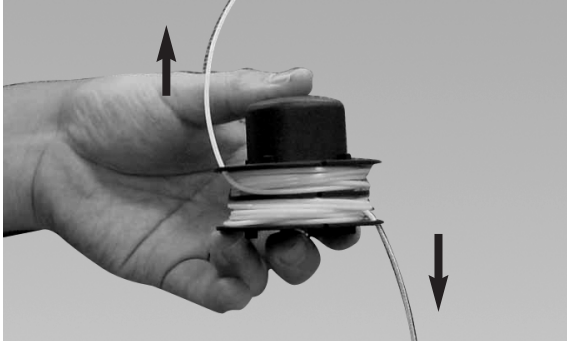
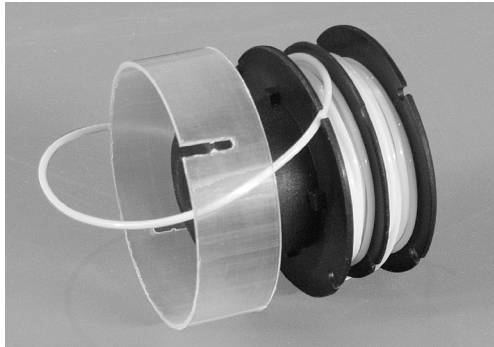
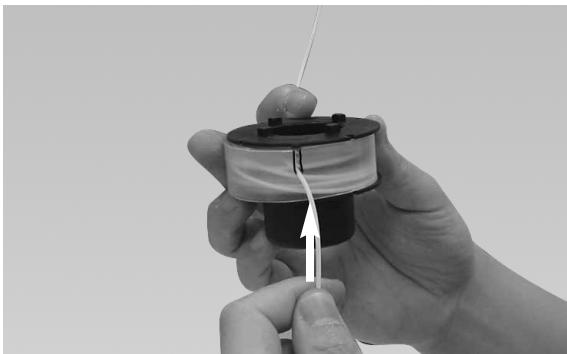
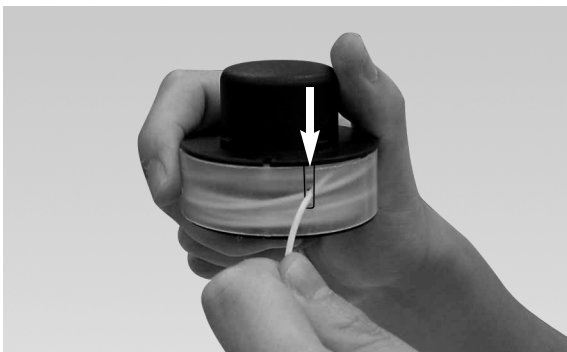

Fig. 23
Fig. 24
Fig. 25
Fig. 26
6. Lock the ends of the line in opposite slots on the spool (Fig. 23). Place the clear plastic line retainer back over the line and spool (Fig. 24). Pull the lower line up into the lower slot in the clear plastic line retainer (Fig. 25). Pull the upper line down into the upper slot (Fig. 26).